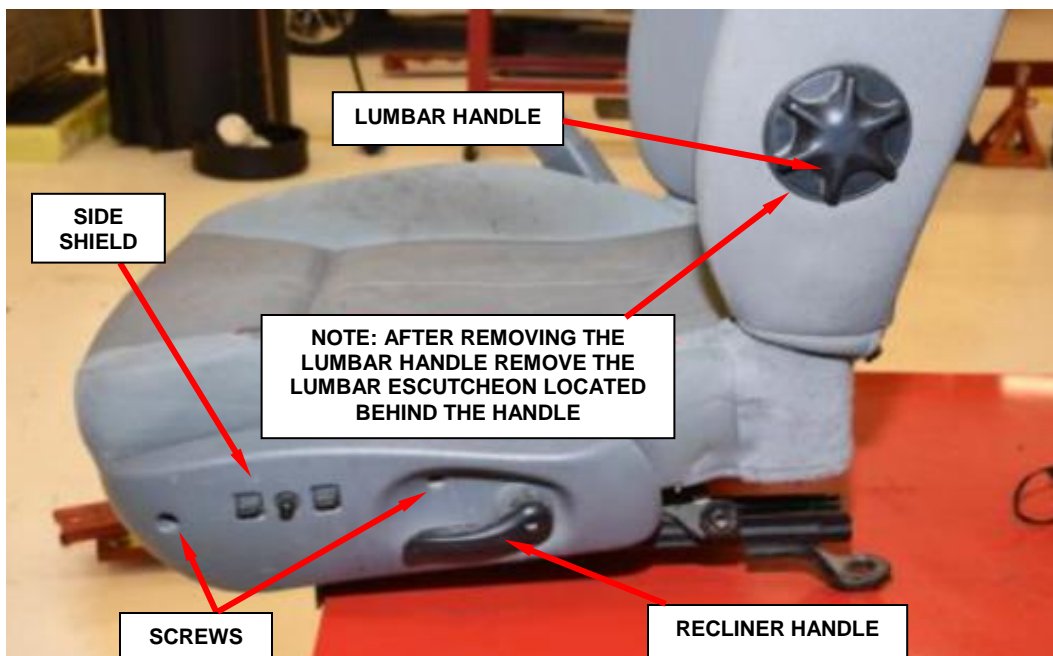

Figure 11 – Side Shield, Lumbar and Recliner Handles
2. Remove the lumbar handle, escutcheon and recliner handle (Figure 11).
3. Remove the screws and position side shield aside (Figure 11).